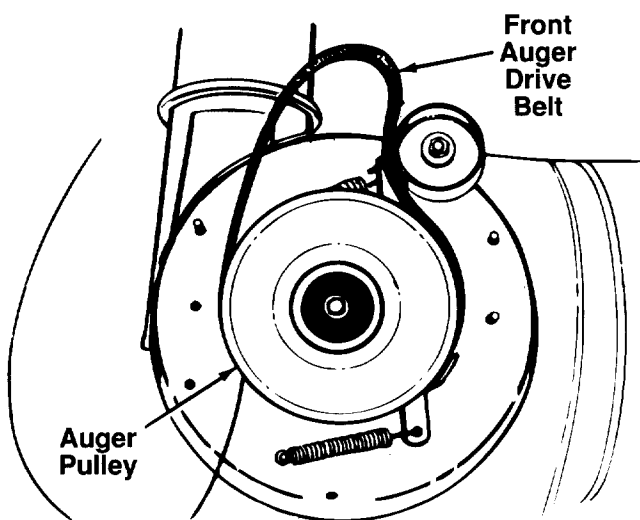

FIGURE 16.
6. To remove the front auger drive belt, push the idler pulley to the left, and lift front auger drive belt from the front auger pulley. See figure 16. Replace both auger drive belts by following instructions in reverse order.